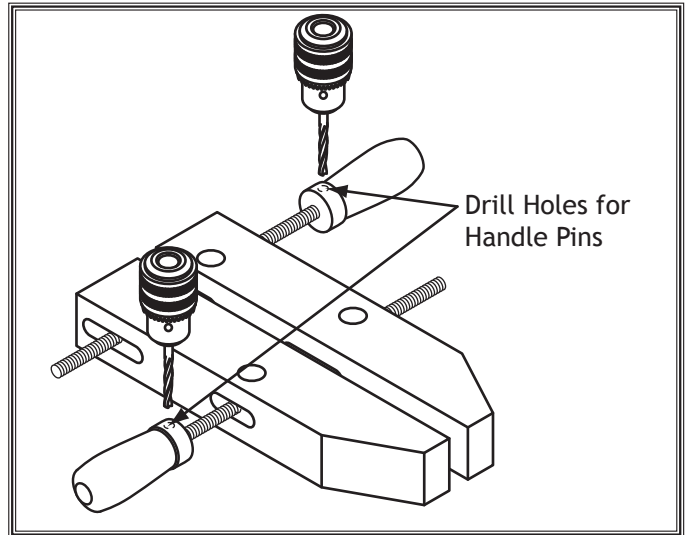

Figure 8. Drilling holes for handle pins.
7. Drill two $\frac{1}{8}$ " holes completely through the handles and the threaded rods, as shown in **Figure 8**.